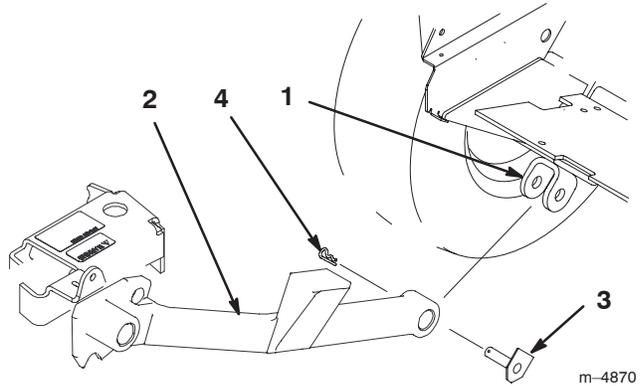

Figure 26
13. Remove hairpin cotters and pivot pin assemblies from push arms at traction unit pivot brackets (Fig. 26).